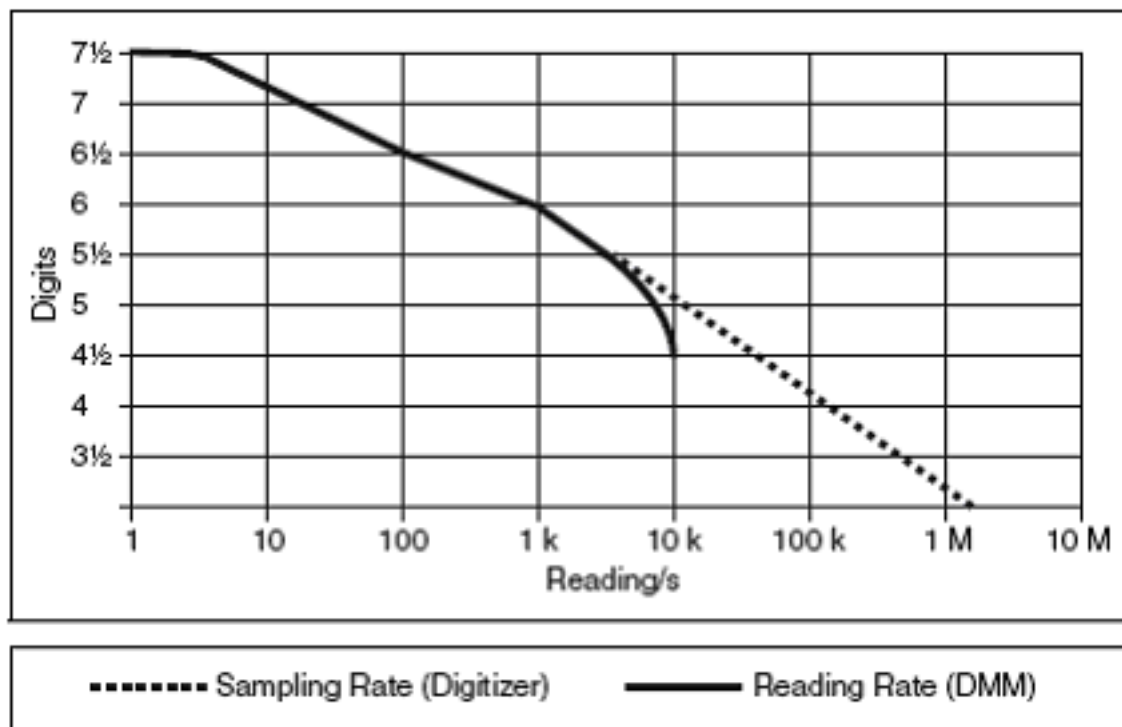

Figure 5. FlexDMM DC Reading Rates
- The unique architecture of the FlexDMM offers a continuously variable reading rate from 7 S/s at 7½ digits to 10 kS/s at 4½ digits, as shown in Figure 5.